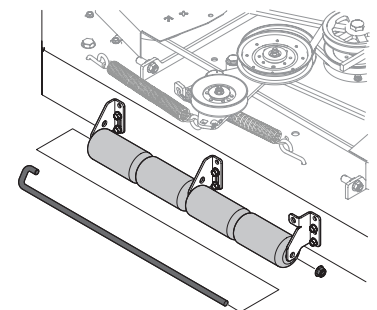

Figure 4
4. With the three roller brackets installed, slide the roller pin (#6) through the brackets and the anti-scalp roller assemblies (#1) as shown in Figure 4.
5. Secure the roller pin (#6) in place with the flange lock nut (#8). See Figure 4.